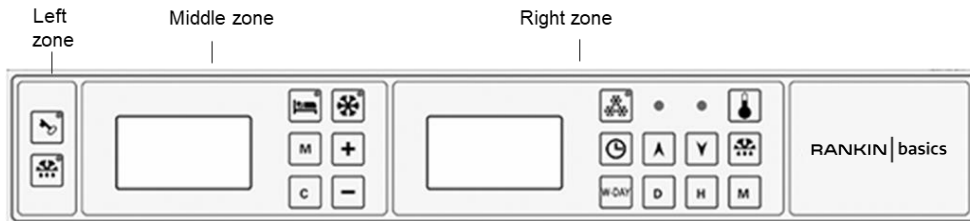

Fig 1
4.1 Central Operation Panel (Fig 1)